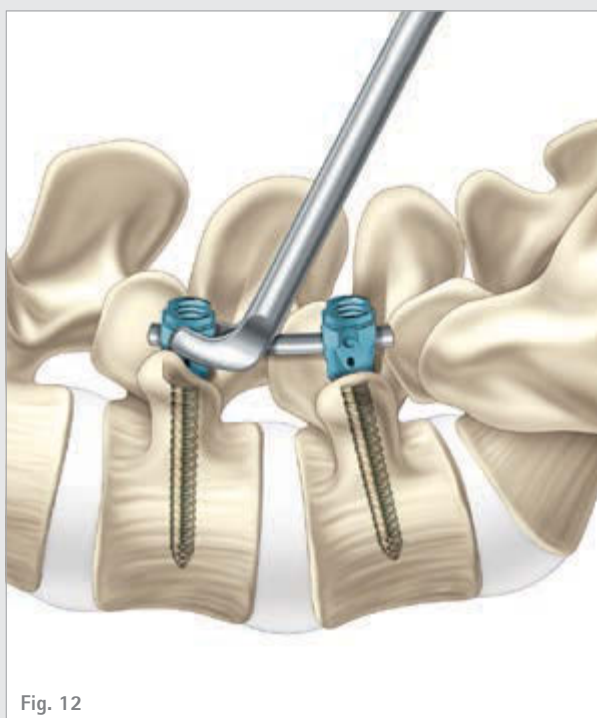

Fig. 12
- Align the pins in the Fork Rocker with the line on the pedicle screw body, and fit into the under cut grooves on the medial and lateral edges. (Fig. 12)